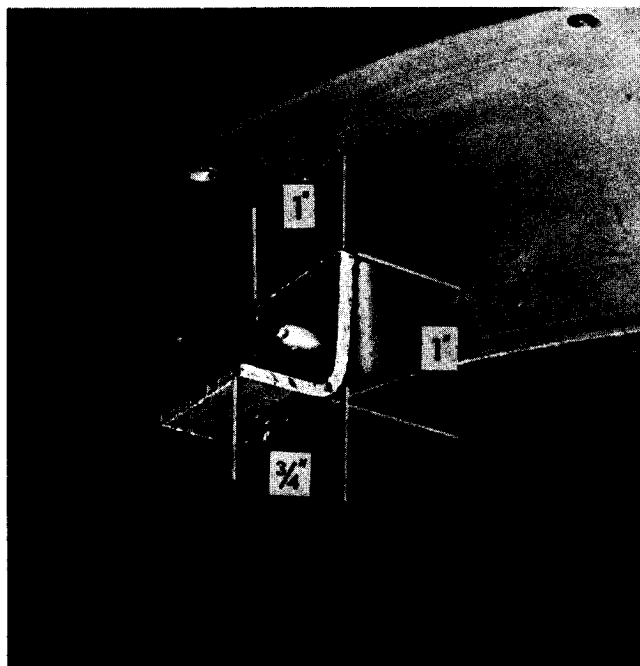

Figure 2
1. Fabricate eight tabs from aluminum angle stock as pictured in Figure 2.